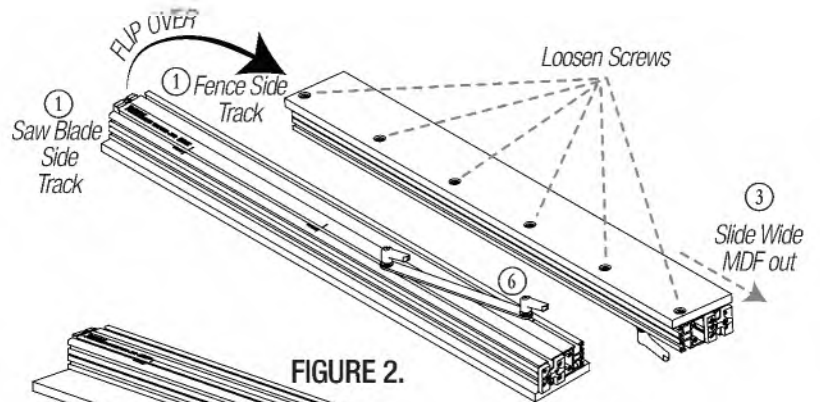

FIGURE 2.
- Slide the Oval Nuts into the Fence Side Track. **FIGURE 2.**
- Secure the (6) Screws into the countersunk holes on the Thin MDF Sled.
- Secure the (6) Screws in the countersunk holes on the Wide MDF Sled.